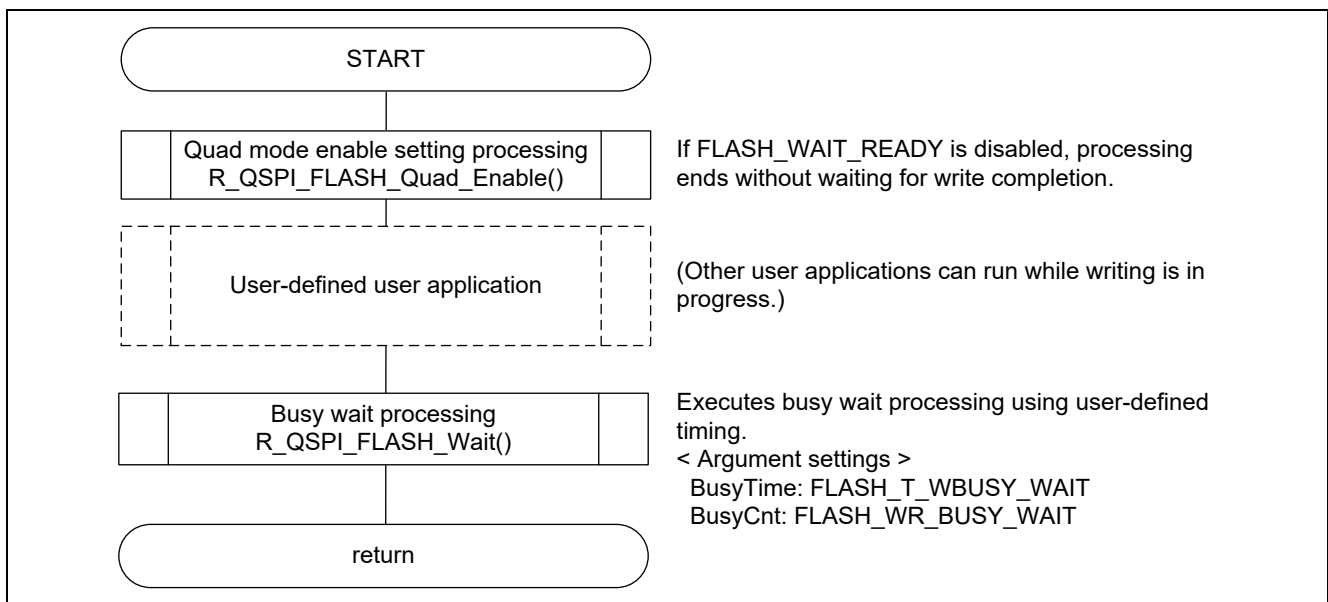

Figure 5.17 Waiting for Quad Mode Enable Setting to Finish Using R\_QSPI\_FLASH\_Wait()
Description	<ul style="list-style-type: none"> <li>• Sets the quad enable (QE) bit in the status register to 1 to enable quad mode.</li> <li>• When using quad mode, call this function beforehand.</li> <li>• After processing finishes, read the status register to confirm the setting of the QE bit.</li> <li>• The quad enable (QE) bit is non-volatile. To disable quad mode after it has been enabled once, run quad mode disable setting processing.</li> <li>• There are two methods of waiting for the write to finish. These are shown below. Note that the next processing (write, read, erase, etc.) should be run after confirming that the write has finished. <ul style="list-style-type: none"> <li>&lt; Using this user API to wait for the write to finish &gt; Enable FLASH_WAIT_READY in r_qspi_flash_mx25l.h.</li> <li>&lt; Not using this user API to wait for the write to finish &gt; Disable FLASH_WAIT_READY in r_qspi_flash_mx25l.h, and call R_QSPI_FLASH_Wait() after processing by this user API has finished. This processing method allows you to perform write-end wait confirmation at any time you wish. Refer to figure 5.17 for instructions.</li> </ul> </li> </ul>